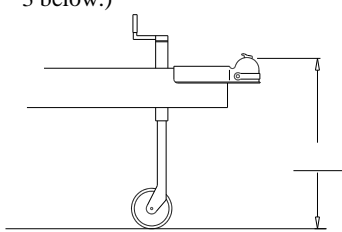

Fig. 1
2. Level the trailer and measure and record the distance from the ground to the top of the coupler. (Fig.1).
5. Slide hitch bar ③ into sleeve receiver; insert pull pin ⑬ and spring clip ⑭. With ball, purchased separately, attached to ball mount ①, slide ball mount up or down hitch bar (hitch bar may be used in the up or down position) until desired ball height is obtained and holes line up with hitch bar. Insert bolt ⑩ in bottom hole first of the hitch head.
6. Rivet ⑤ and 7 spacer washers ⑦ are supplied in order to gain correct downward angle of spring bars. Insert rivet ⑤, and depending on angle or slope of bars that must be gained, use either 7 or the least amount of washers ⑦ necessary in order to establish correct angle. (See Fig. 1, 2, and 3 below.)